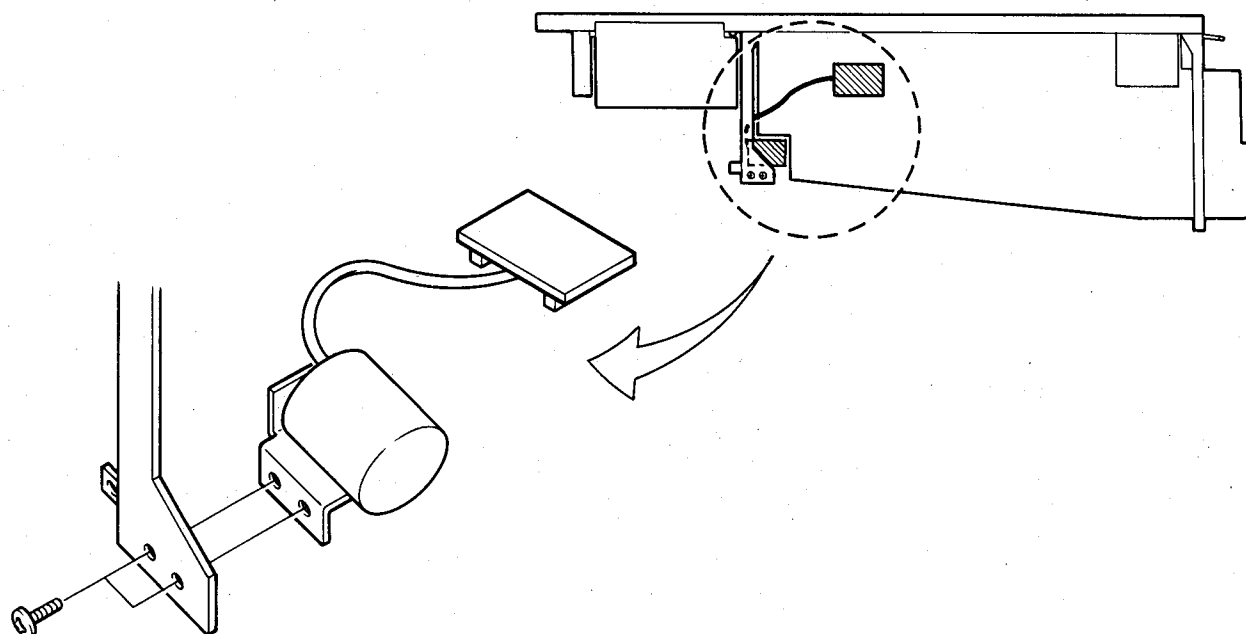

FIGURE 6. OPTIONAL INPUT TRANSFORMER INSTALLATION. (IT1800)
The PM1800 standard input module is equipped with a balanced, differential input preamplifier for the XLR connector. That preamp, along with some circuitry for the resistive attenuation pads, is located on a small printed circuit board that "piggy back" mounts to the module's main circuit board. Refer to Figure 6.
6. Install the transformer by securing its bracket to the lower left edge of the module frame with the screw provided. Dress the cable that joins the transformer and its circuit board neatly. You may wish to tie it to the board so that after the module is reinstalled, the cable does not become pinched between modules or between the module and mainframe. Refer to Figure 6.